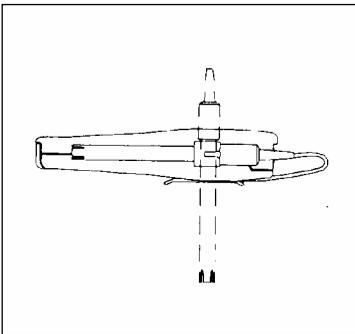

Figure 10: Different positions using electrode holder
3. You can attach the electrode holder in different positions (Figure 10).